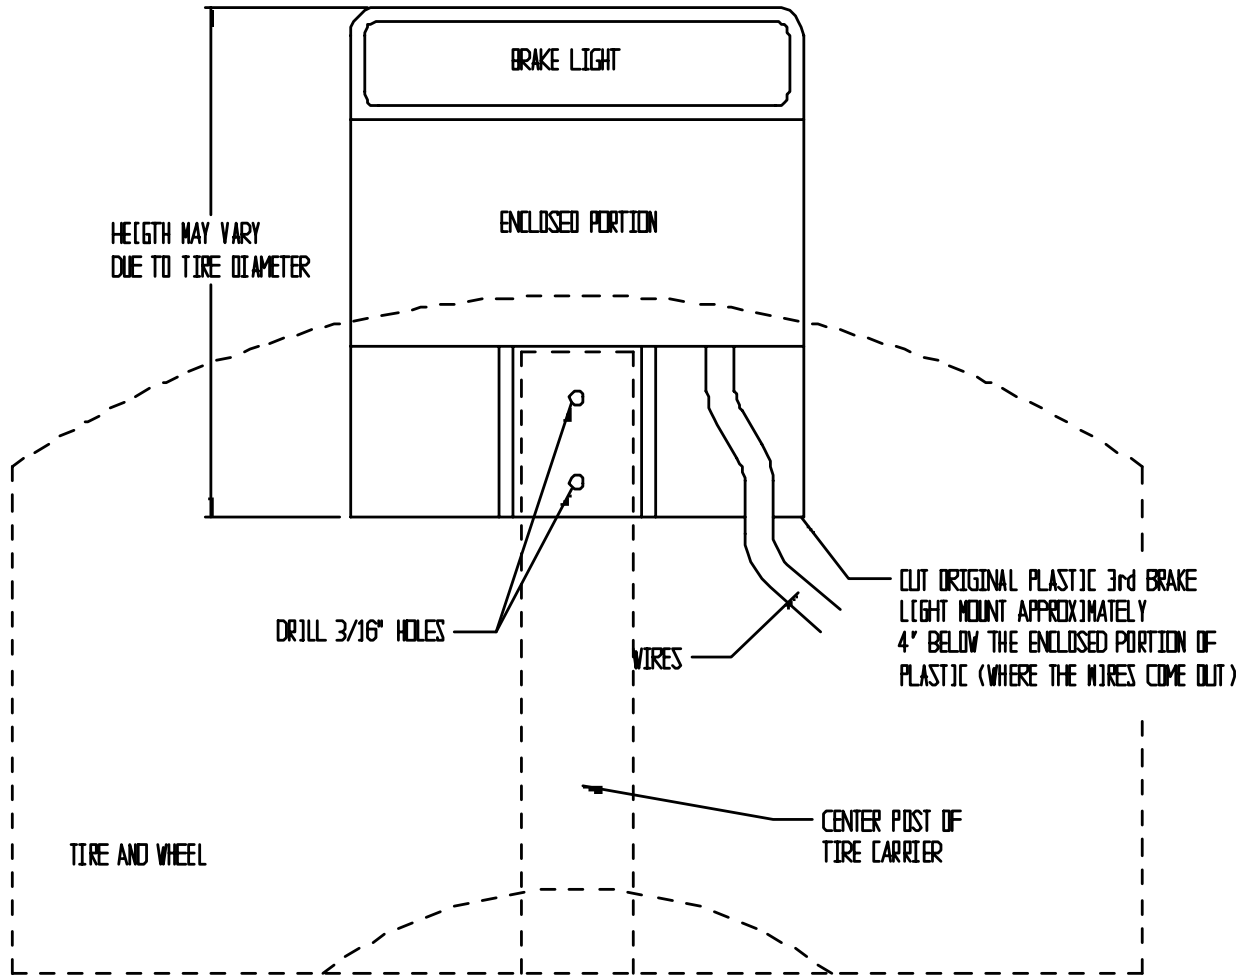

Figure 10, 3rd BRAKE LIGHT MOUNTING
22. On TJ and YJ vehicles with a 3rd brake light, it will be necessary to re-install the light. This can be easily done by cutting the Original Bracket and mounting it to the vertical post on the new tire carrier. Two small screws are supplied for mounting it. **See Figure 10.**